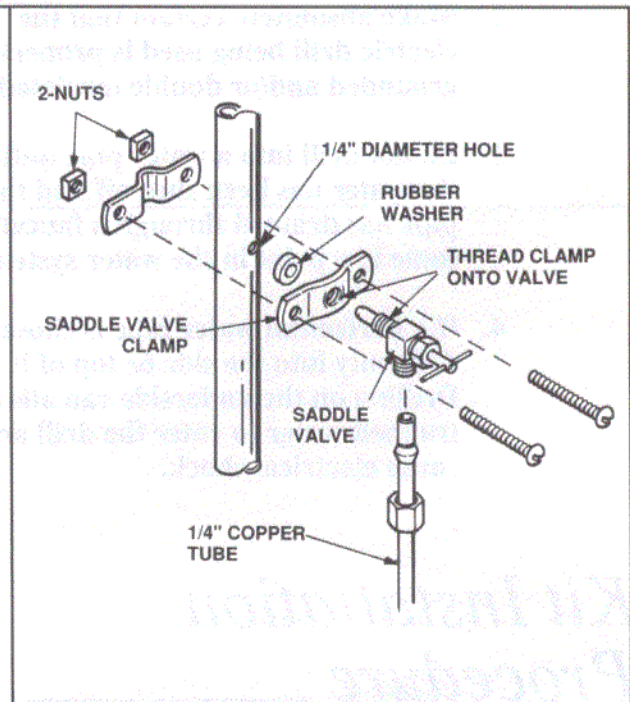

Figure 1
- f. Attach the saddle valve to the water pipe using the parts illustrated in Figure 1. Thread the valve to the saddle valve clamp. Make sure that the rubber washer is in place between the saddle valve clamp and the water pipe. Also note that the saddle valve clamp must be threaded onto the saddle valve stem before clamping the saddle valve to the water pipe. The valve will not thread completely into the saddle valve clamp because of tapered threads. Tighten
- g. Slip the brass nut and brass sleeve onto the 1/4 inch copper tubing as shown in Figure 1.